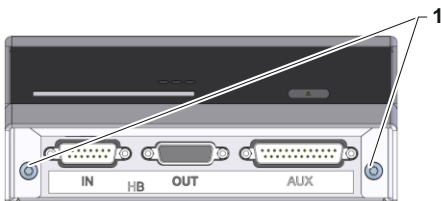

Fig. 5: Front side of the evaluation unit
- Attach screws (Label 1 → Fig. 5).